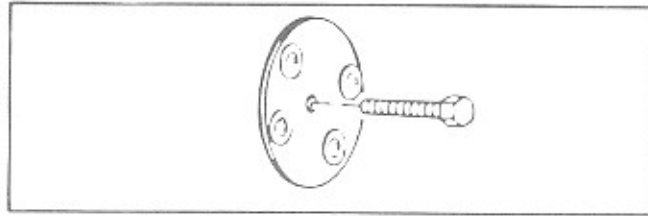

Figure 1-3. Shipping Bolt Removal
1. Remove the CD changer mechanism shipping bolt from the back of the phonograph cabinet (see *figure 1-3*).